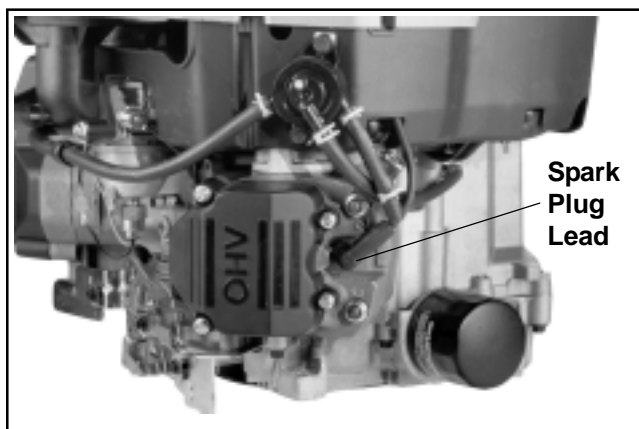

Figure 9-1. Disconnecting Spark Plug Leads.
1. Disconnect the leads from the spark plugs. See Figure 9-1. Disconnect the battery cables from the battery, starting with the negative (-) cable.